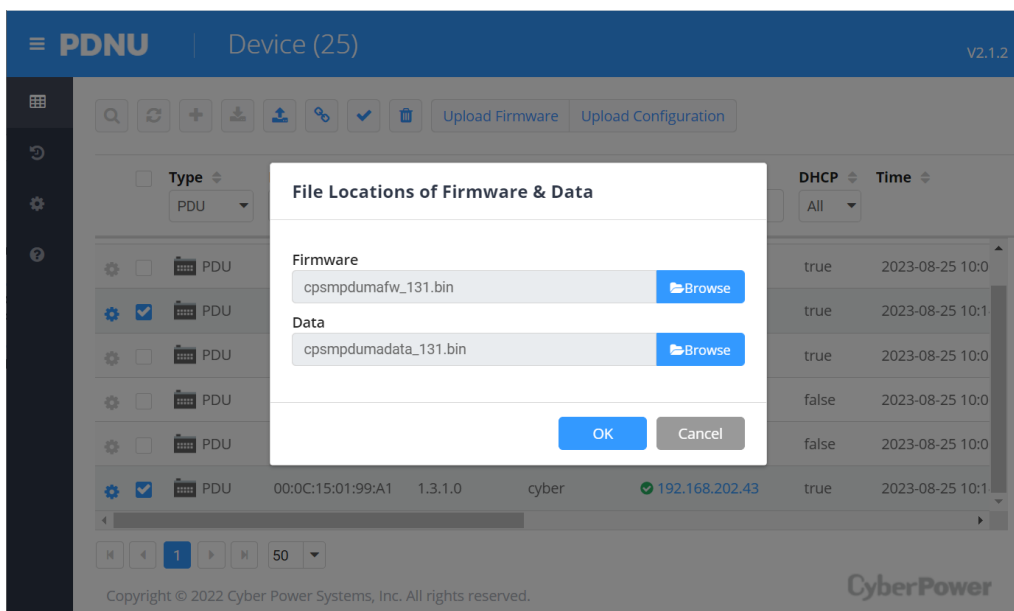

Figure 4.
- Click **Browse** to locate and select the firmware and data file to be updated and then click **OK** (Shown in Figure 4).